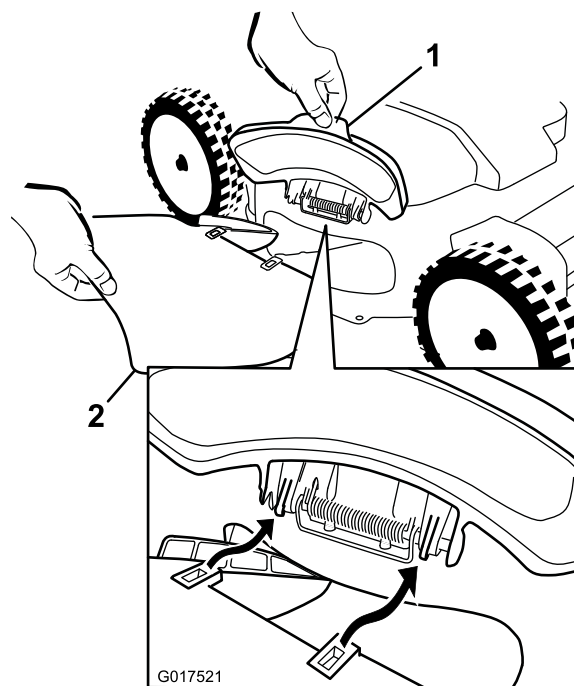
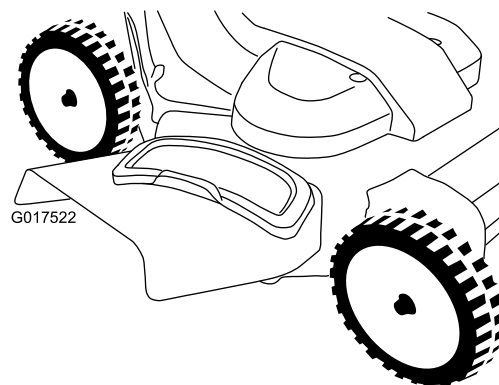

Figure 27
Figure 28
1. Lift open the side-discharge deflector (Figure 27).
2. Install the side-discharge chute as shown in Figure 27 and Figure 28, and close the deflector onto the chute.